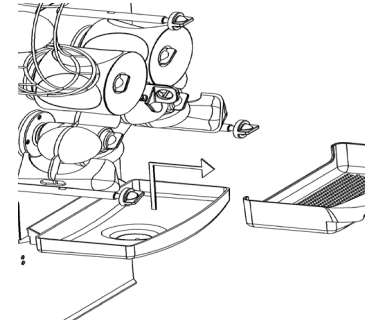

Figure 9
3- Remove the filter (48) that is in front of your machine (**Figure9**).